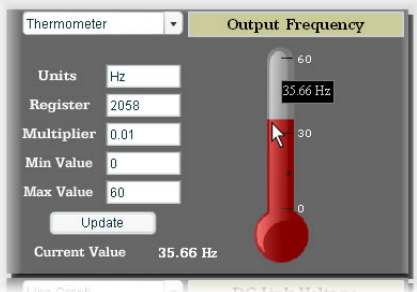

Figure 61: Thermometer
**Thermometer:** Refer to Figure 61. This type of meter implements the universally-identifiable thermometer display format. Hovering the mouse pointer over the red “mercury” portion of the graph pops up a tooltip which displays the current indicated value and units.